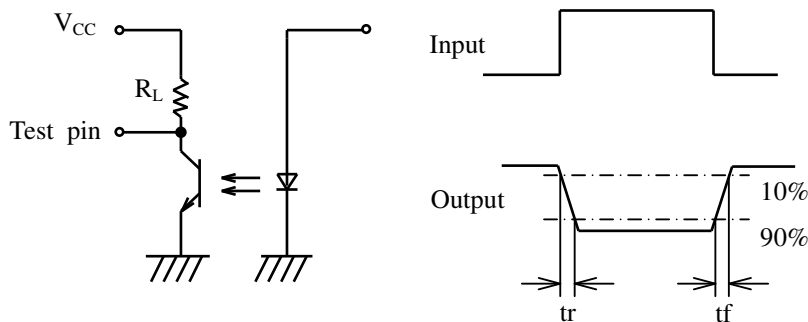

Fig.1 Forward current vs. ambient temperature
\*1 The derating factors of absolute maximum ratings due to ambient temperature are shown in Fig. 1, 2, 3.
<Fig. 1>
- 1) 8 products are put in 1 pocket as shown in (a) or (b). <Fig.1>